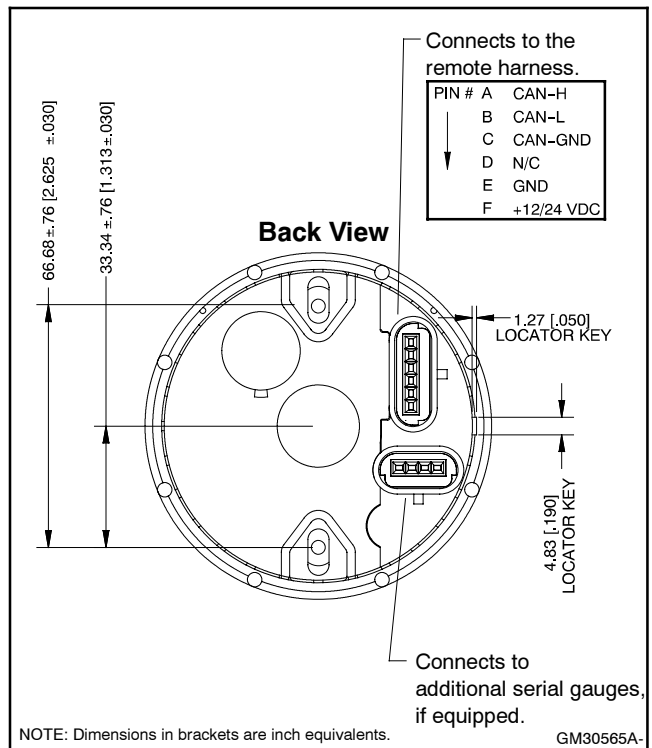

Figure 4 Remote Digital Gauge Connections
- 2.2 Connect gauge connection harness GM48148 to the 6-pin connector on the back of the digital gauge. See Figure 4.